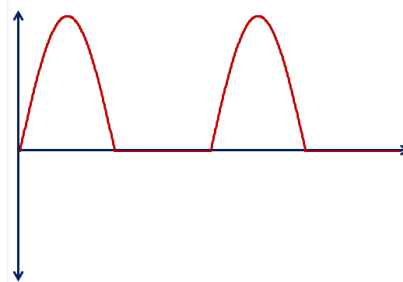

Figure 1. Periodic wave
2. Find the Average Value, RMS Value, form Factor and Peak Factor for the wave shown in the Figure 1.